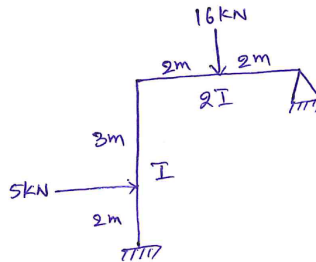

Figure 9
- (b) Analyze the frame shown in Figure 9 by using stiffness matrix method. [7M]